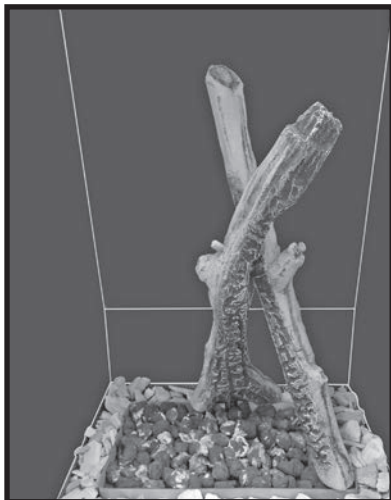

Figure 34: Log 2.
2. Interlock right log #2 with rear log use the pin in the burner tray to position the log (Figure 34) .